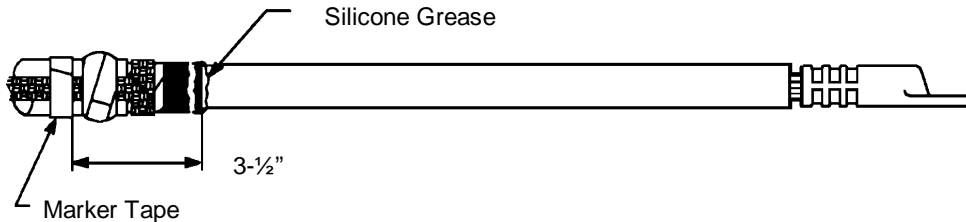

Figure 4
1. Cover the edge of the semi-conducting material with a liberal coating of silicone grease (**Figure 4**).
2. Place a marker tape 3-1/2" back from the end of the semi-con material (**Figure 4**).